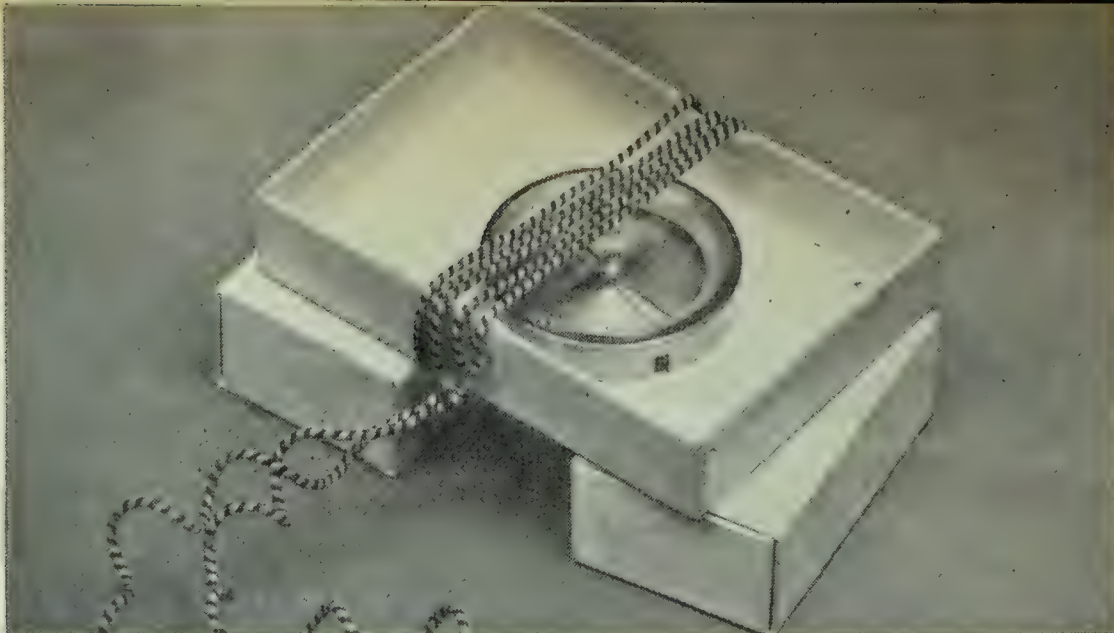

FIG. 378. A home-made galvanometer for Experiment 83
*Experiment 83. HOW CAN YOU MAKE A SIMPLE CELL?* (a) For this experiment you will need some convenient way of telling when you have an electric current. Get a cardboard or wooden box just large enough to hold a magnetic compass (Figure 378). Wind some insulated copper wire of convenient size around the middle of the box about five times. Fasten the wire so that it will not unwind. Leave long ends to connect to your cell.